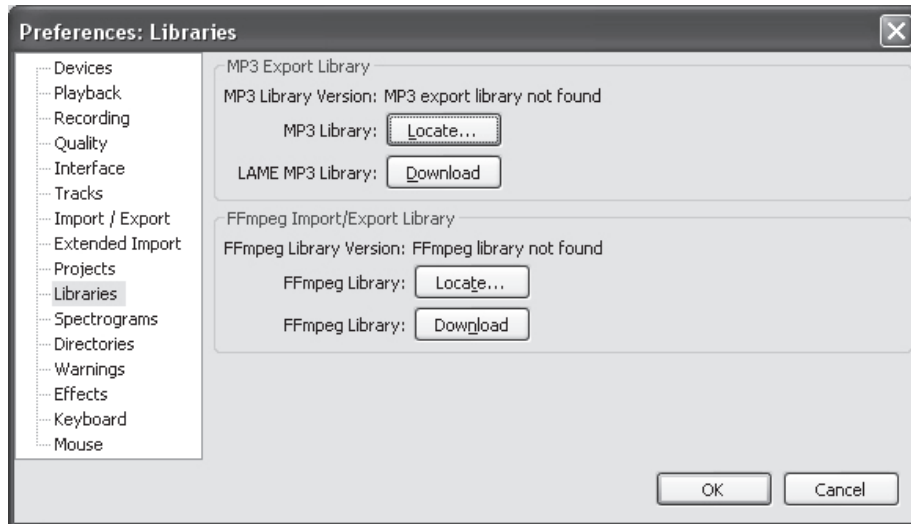

Fig. 1
**Note:** Normally, Audacity will automatically locate the Lame file that you installed. However, if you change default directory of Lame program, you may need to manually locate it by using Audacity→Edit→Preference→Libraries and the click “Locate” button on computer screen to browse “lame\_enc.dll” file where the directory you have installed. See Fig.1 & 2 below and click OK to finish manual installation.